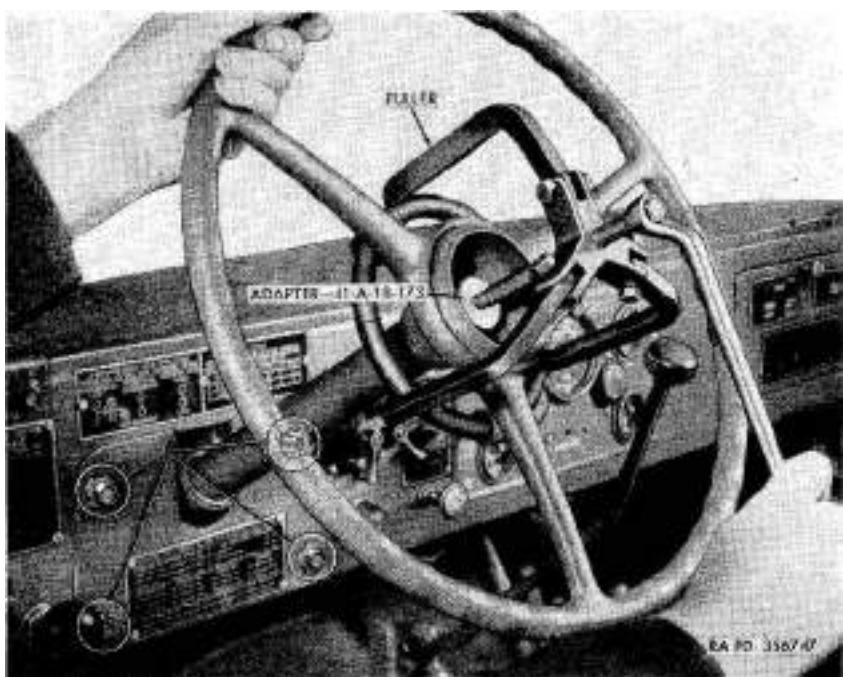

Figure 14. Removing steering wheel.
- (1) Remove steering column cut-out cover (four lock washer screws) (A, *fig. 14*).